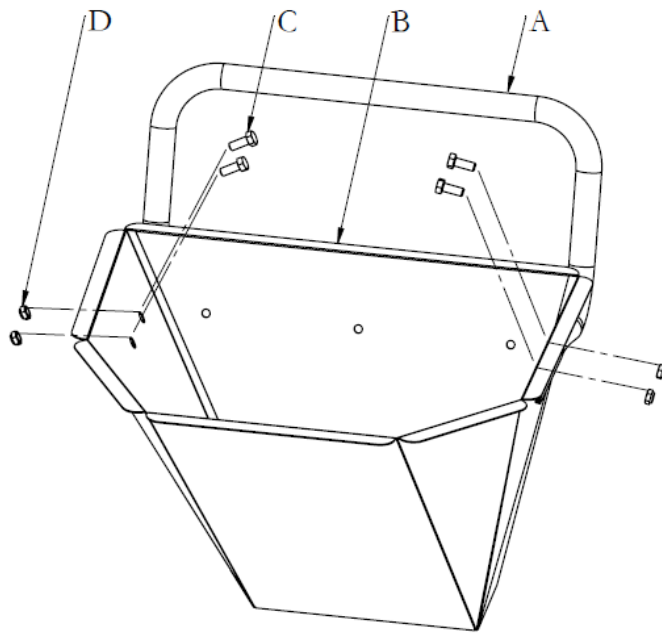

Figure 4
**Install the Handle (See Figure 4)**
1. Position the handle (A) by aligning the handle holes with the hopper holes on the two sides.
2. Using four flange bolts (C) and nuts (D), secure the handle on the hopper.